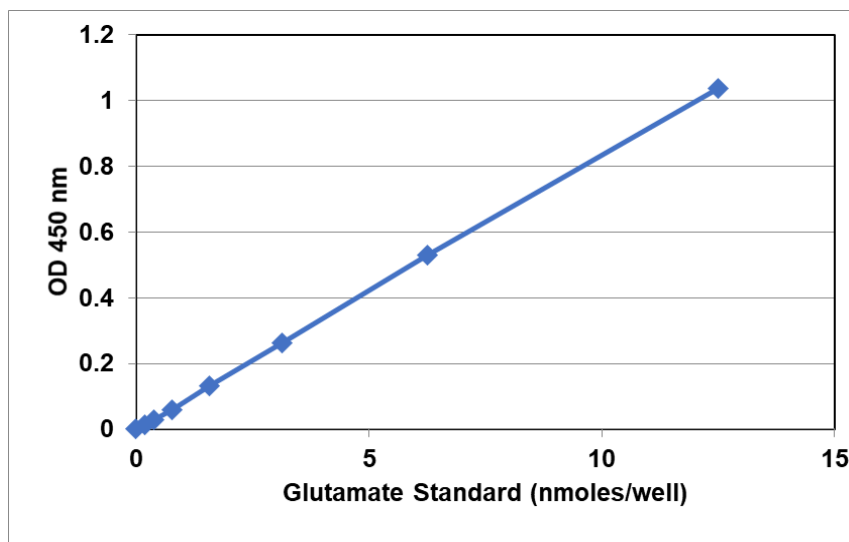

Figure 2: Example Glutamate Standard Curve.
2. Graph the standard curve with the corrected absorbance values (see Figure 2 for an example standard curve).